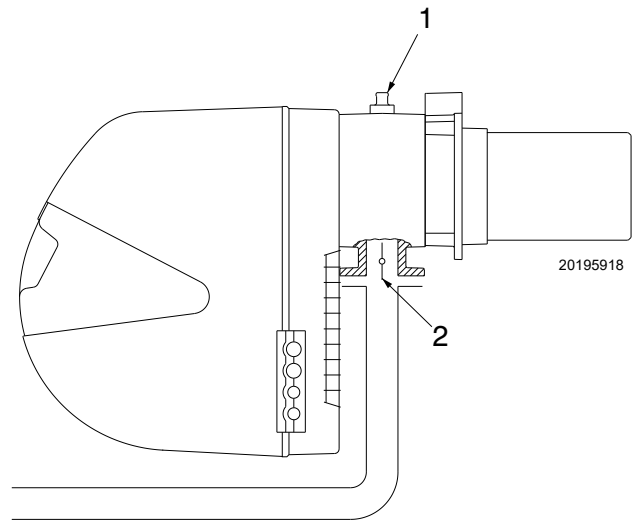

Fig. 20
Gas pressure measured at test point 1) (Fig. 20), with:
Pressure loss at gas butterfly valve 2)(Fig. 20) with maximum opening: 90°.
- subtract the combustion chamber pressure from the gas pressure measured at test point 1) (Fig. 20).
| Gas pressure at test point 1) (Fig. 20) | = | 6.3 mbar |
To calculate the required gas pressure at test point 1) (Fig. 20), set the maximum modulating output required from the burner operation:
- read, on the right (column 1), the pressure at the test point 1) (Fig. 20).
pressure required at test point 1)(Fig. 20).